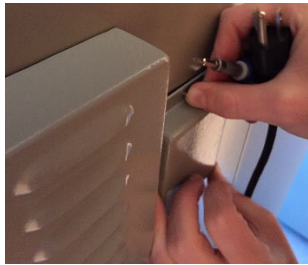
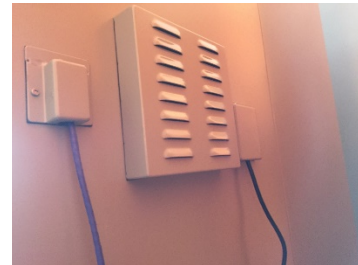

Figure 32
Figure 34
- 12 Remove the covers on the back of the tower to lead the flat plug extension cord and ethernet cables through the back (Figures 32 & 33). Replace the covers after you have completed (Figure 34).